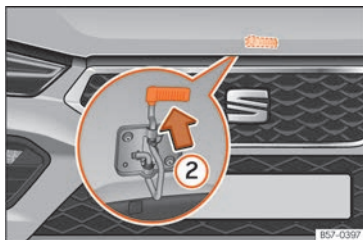

Fig. 208 Cam under the bonnet
- To lift the bonnet, press the release catch under the bonnet upwards »» Fig. 208 ②. The arrester hook under the bonnet is released.